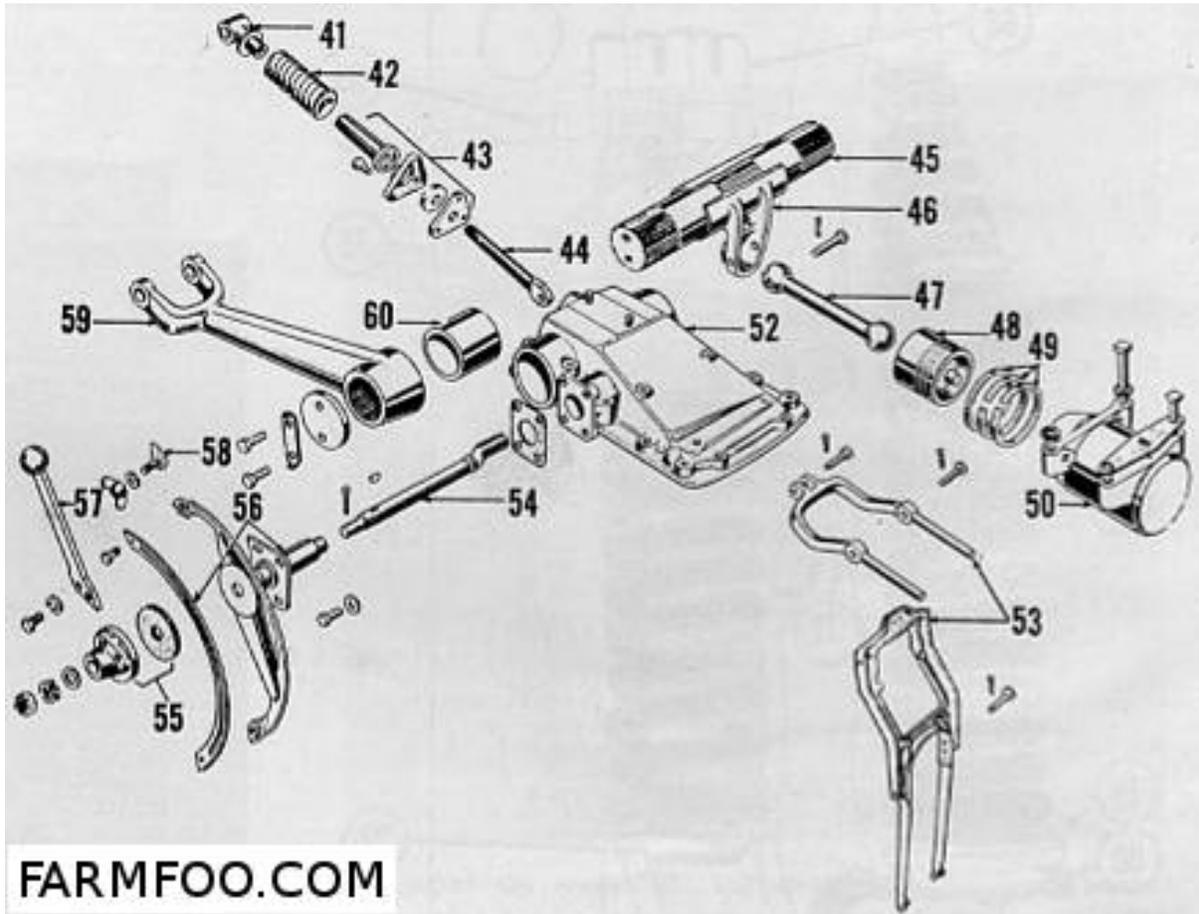

Fig. F085 - Exploded view 2N-9N hydraulic lift cover assembly.
106. **DISASSEMBLE AND OVERHAUL.** Procedure for disassembly of the lift cover assembly is self evident by an examination of the unit and reference to Fig. F085. The general order of disassembly is the ram cylinder (50), control spring (42), lift control fork and spring control fork (53). Remove cap screws retaining one lift arm (59) to lift shaft (45); then bump end of lift shaft which will remove lift shaft ram arm (46) and one lift shaft bushing (60). Push other bushing from housing. Remove hand control quadrant (56) and attached parts.